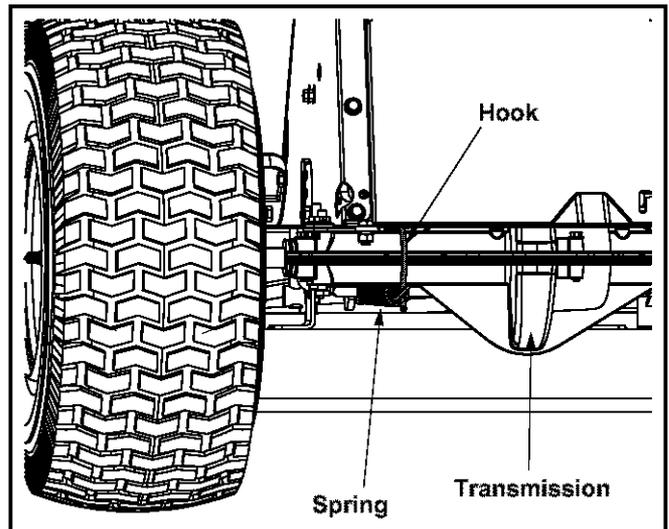
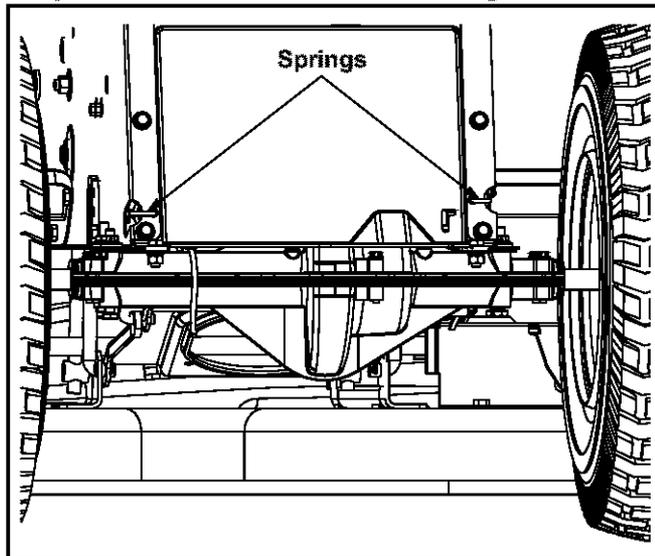

Figure 24
Figure 32
- Using a spring puller (MTD Part No. 732-0571) or other suitable tool, disconnect the spring which is attached to a small hook found on the left, rear portion of the transmission. See Figure 24.
- Using a spring puller (MTD Part No. 732-0571) or other suitable tool, disconnect the spring which is attached to a small hook found on the left, rear portion of the transmission (Refer to Figure 24) and the two springs which are attached to the rear portion of the tractor frame. See to Figure 32.